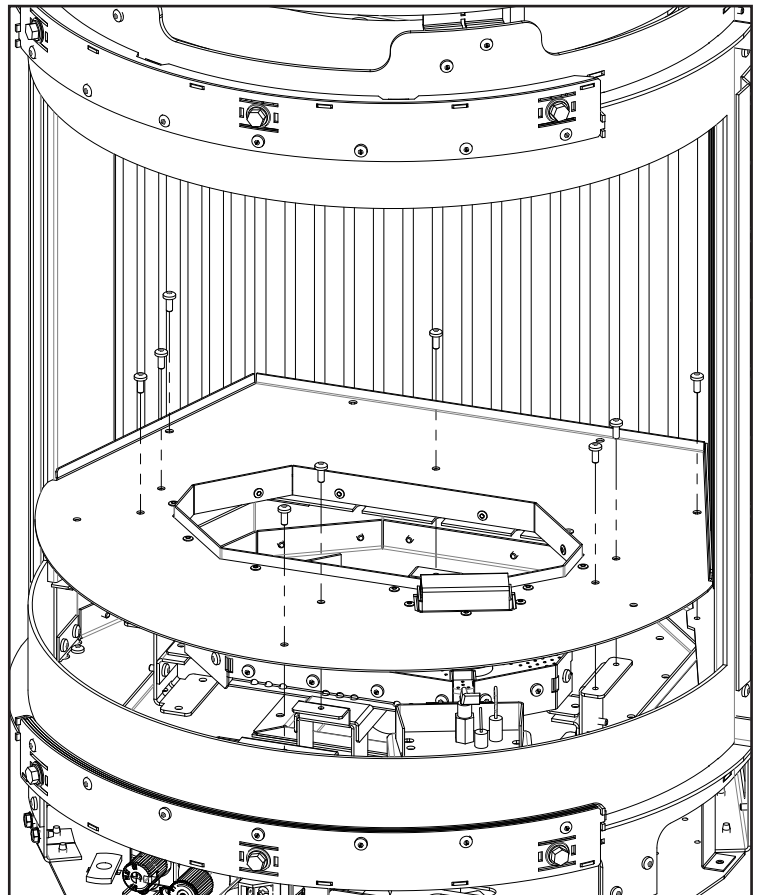

Figure 34: Burner Platform Removal
To remove the burner, first remove the door frame and glass (refer to page 15 and page 16 for details). Remove the nine (9) screws securing the burner platform using a T20 screwdriver (see Figure 34).